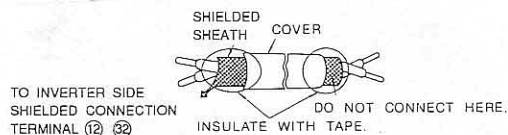

Fig. 3 Preparation of Shielded Cable Ends
(1) Separate control signal wiring (terminal TC1 to TC11) of DI-08 from main circuit wiring or other power lines.
(2) To prevent malfunction caused by noise, use shielded cable for control signal wiring and prepare its terminal ends as shown in Fig. 3.